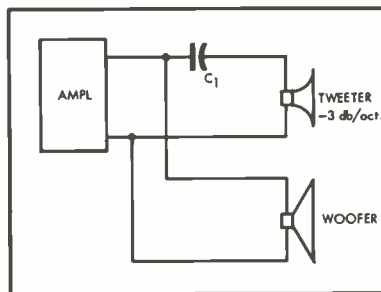
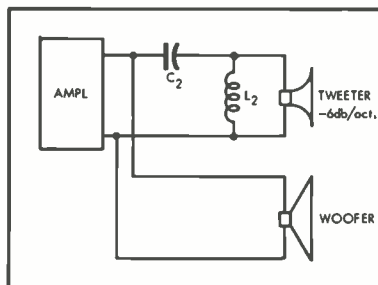

Fig. 1
Fig. 2
It sometimes happens that the woofer used with a particular speaker system is quite uniform in response up to, perhaps, 5000 cps, after which the highs roll off smoothly. There is, in this case, no need to limit the range the woofer is to handle. Obviously a tweeter must be used to restore the highs. It must not, however, operate to any great extent until 5000 cps is reached, after which point its output rises as that of the woofer falls. Figure 1 shows a circuit which could serve this purpose. C_1 is
ferred by this simple network, the low frequencies were great enough to cause tweeter damage. The circuit shown in Fig. 2 can be used to cause a more rapid attenuation of the lows. This circuit is similar to that of Fig. 1, but has a shunted inductance. C_2 functions as before, but its value should be decreased to 0.707 times the value as calculated above.
the crossover point. As the frequency decreases, the reactance of L_2 increases. This results in the total reactance to the capacitor being less than it would without the inductance across the tweeter, with the result that the voltage division between capacitor and tweeter is greater than the attenuation offered by the circuit of Fig. 1.
Suppose now that we have found it necessary to attenuate the high-frequency signals feeding the woofer. We still wish to attenuate the lows fed to the tweeter as before. The circuit of Fig. 3 could be used. Notice the similarity between Figs. 1 and
3. (Consider the tweeter hookup in Fig. 1, and the woofer hookup shown in Fig. 3.) In Fig. 3, L_1 is in series with the woofer, whereas in Fig. 1 C_1 is in series with the tweeter. L_1 is designed to equal the reactance of the woofer at the crossover frequency. As the frequency rises above this point, the reactance rises higher than that of the woofer, and again a voltage divider is formed. Less and less signal is available to the woofer as the frequency increases. As the tweeter takes over, the woofer is gradually removed from the circuit, "unloading" the line except for the tweeter. In all of the preceding circuits, the impedance across the line varies somewhat.